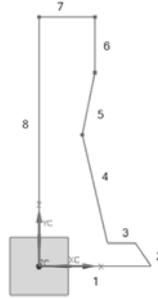

Figure 3-58 The sequence for drawing the profile
- Follow the sequence given in Figure 3-58 for drawing the sketch. Draw the other entities of the sketch. For better understanding, the sketch has been numbered and temporary dimensions have been hidden.